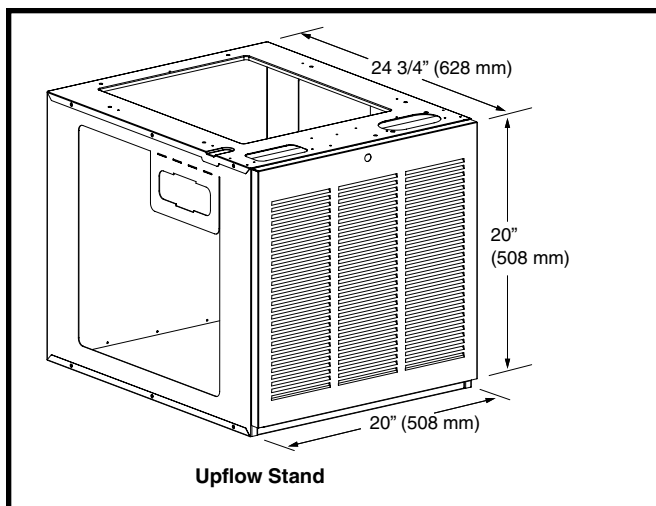

Figure 4. Optional Upflow Stand
- Stand (Figure 4 \(page 8\)) must use two filters: one is supplied with the stand and the other MUST be removed from the furnace and placed in the stand. See instructions supplied with the upflow stand for additional details.